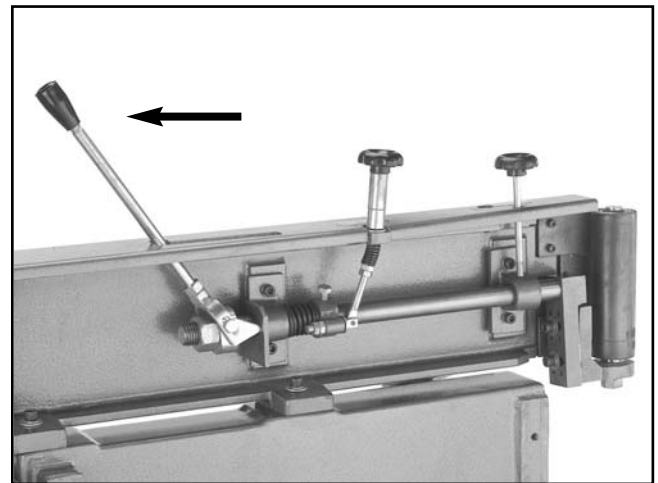

Figure 7. Tension lever in release position.
2. Move the tension lever into the release position as shown in **Figure 7**.